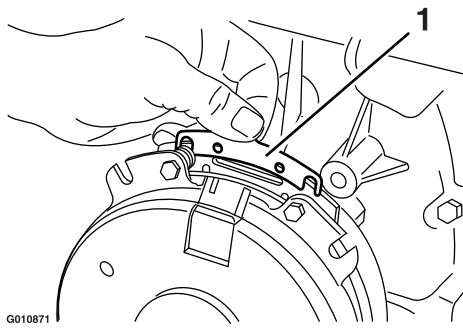

Figure 67
- B. Using needle-nose pliers, or by hand, hold the tab and remove the shim (Figure 67).
Remove any buildup of grass, dirt, or other debris from the engine screen. This helps ensure adequate cooling and correct engine speed and reduces the possibility of overheating and mechanical damage to the engine (Figure 67).